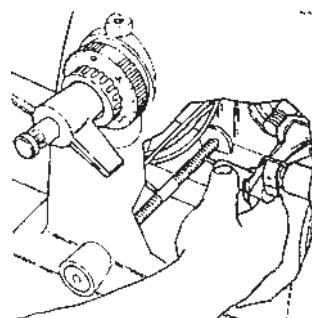

Figure D-4
15. To lubricate the **headstock lock**, loosen the lock as far as possible. Then reach inside the nameplate opening and apply a small amount of powdered graphite to the points where the threaded rod screws into the wedge locks, as illustrated in Figure D-4. Replace the nameplate and secure the headstock lock.